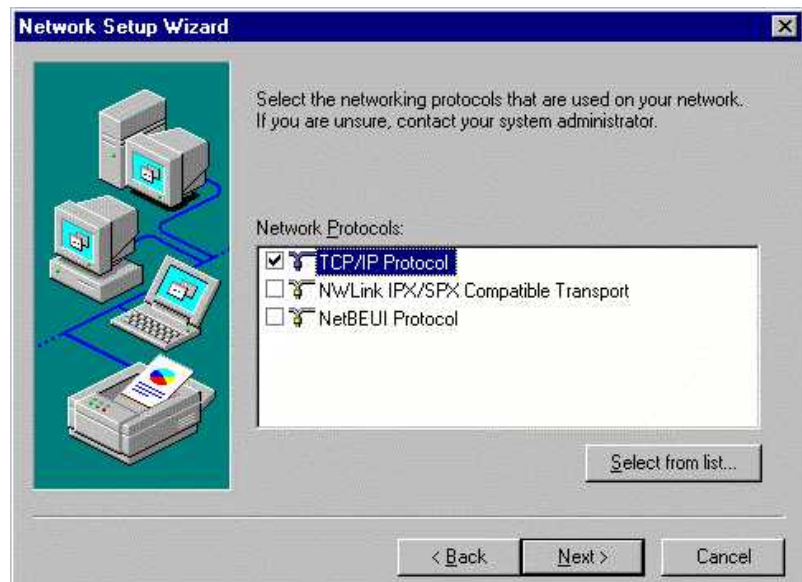

Fig. 8-9 Select protocol
In the "Network Setup Wizard" dialog box (Fig. 8-9), you must now select the protocol to be installed.
- For "TCP/IP" networking, select the protocol and confirm with "Next" (Fig. 8-9).